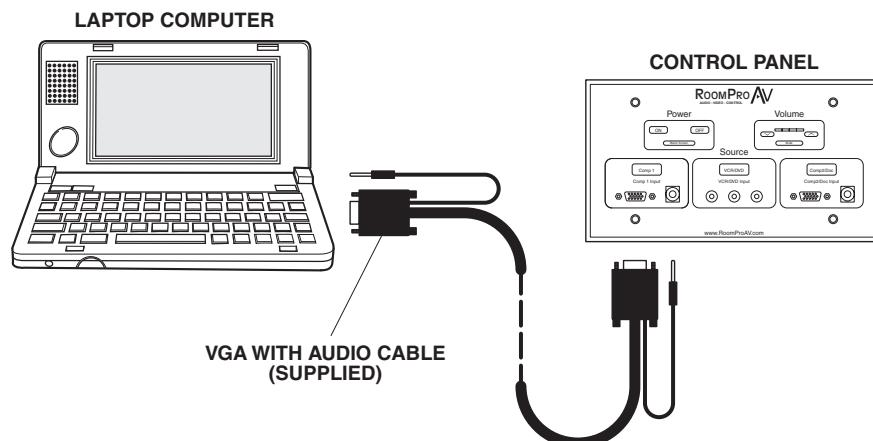

Figure 9 – Laptop Computer Connection
- **For laptop computers:** Connect one end of the supplied VGA with Audio cable to the video and audio output jacks of the computer; then connect the other end of the VGA with Audio cable to the Computer 1 video and audio input jacks of the Control Panel. See *Figure 9 – Laptop Computer Connection*.